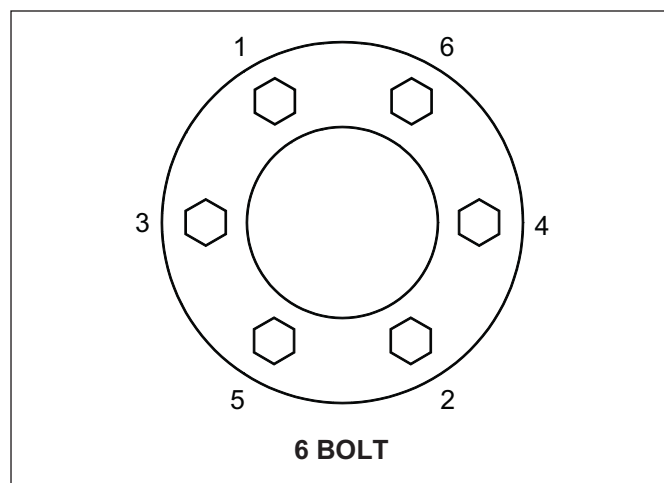

Figure 2-8: Tightening Sequence
- Install a Tire and Wheel Assembly onto each Hub with 1/2-20 x 1 Wheel Bolts and tighten Wheel Bolts to 50 Ft-Lbs using the sequence in **Figure 2-8**. Then tighten to a full torque of 80-85 Ft-Lbs.